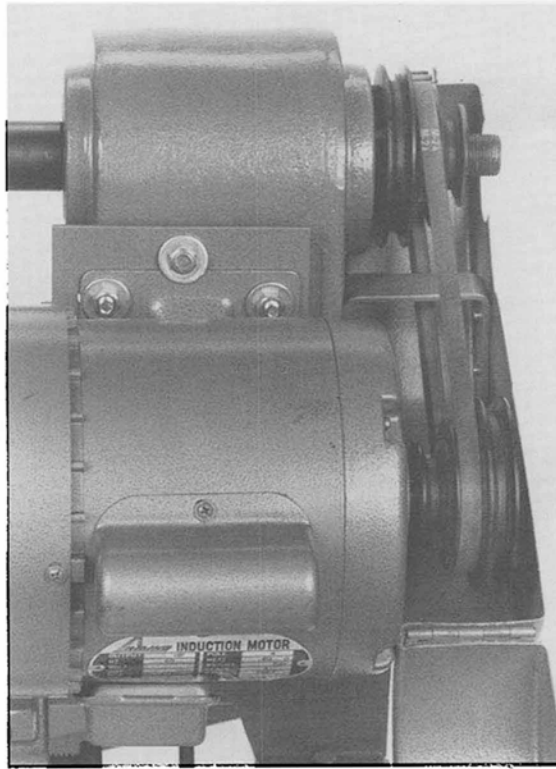

Figure 8 - shows correct motor position and pulley alignment.
- 23. The belt guard; this is shown installed in Figure 8.
1. Your next step is to mount the motor. Position it as shown and mount it to its plate. Use your 5/16" x 3/4" bolts and nuts and washers here. You will need a 12 mm wrench for this job. See Figure 8.